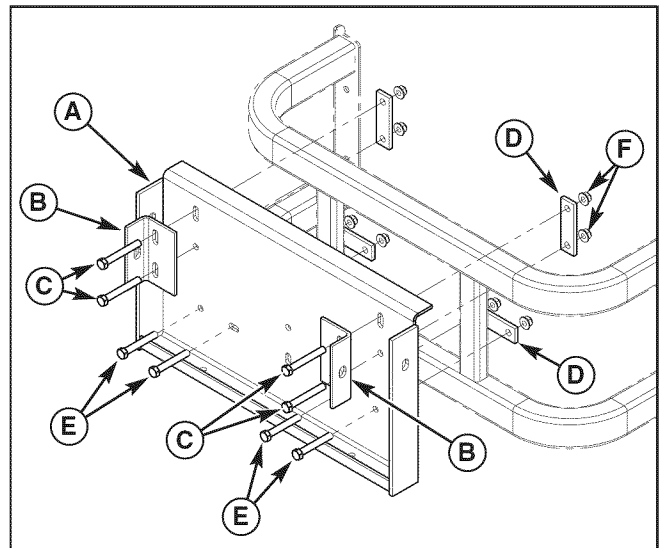

Figure 38. Install Collector Mount Plate
1. Install the collector mount plate (A, Figure 38) and mount tabs (B) on to the bumper. Install the 3/8-16 x 2-3/4" bolts (C) through the mount tabs and loosely secure with the clamp bars (D) and 3/8-16 nylock flange nuts (F).
2. Install the 3/8-16 x 2-1/2" bolts (E) through the bottom mounting holes and loosely secure with the clamp bars (D) and 3/8-16 nylock flange nuts (E).
5. Tighten the top mounting bolts (C, Figure 38) securely and remove the hitch pins and mount posts.
3. Install the collector onto the mount plate and secure with the hitch pins as shown in Figure 38. Again, this will insure that the holes are properly aligned for easy installation and removal.. Tighten the 3/8-16 x 1" bolts securing the posts to the back plate.